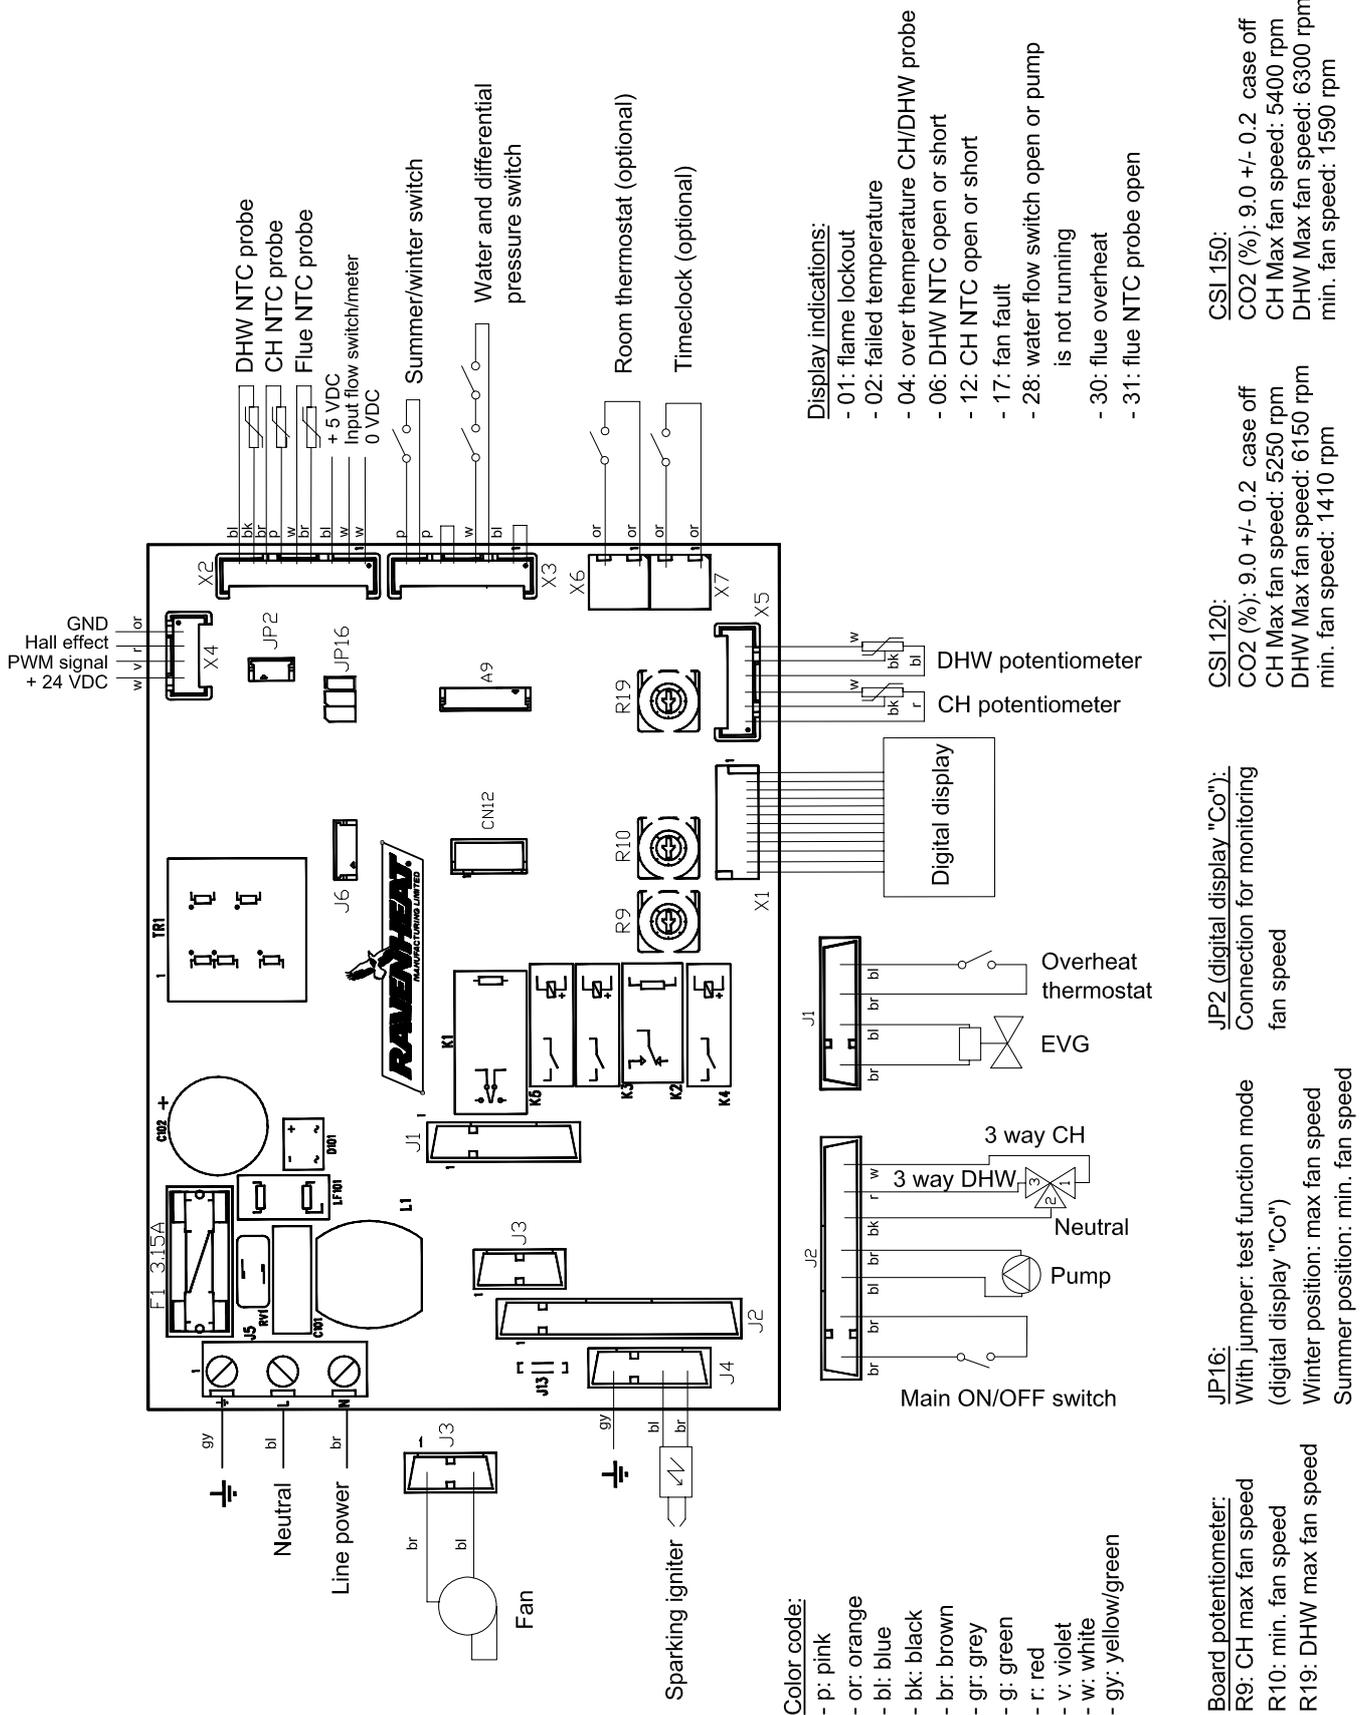

Fig. 50
- Select "Summer" (Fig.50 item 1A).